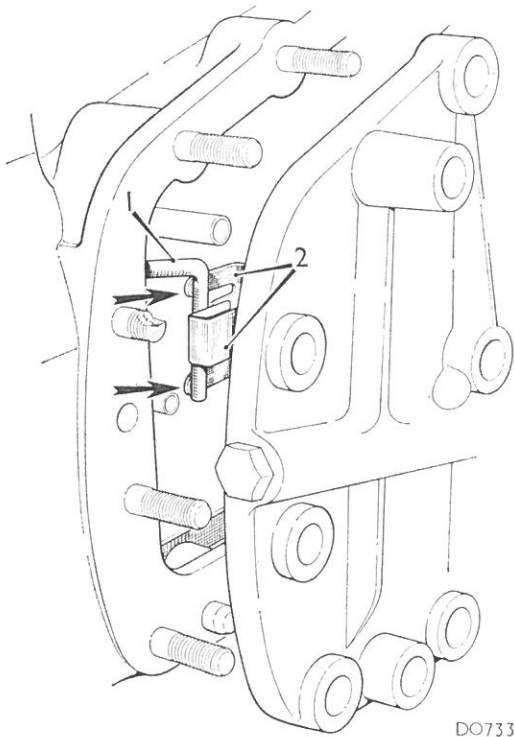

Fig. Fa.21
- (37) Refit the auxiliary pump and governor assembly and engage the valve block linkage with the governor unit as shown in Fig. Fa.21, also ensuring correct alignment with the oil pipes and the forward shaft. The plastic sleeve fitted over the rings on the shaft is for assembly purposes, and will